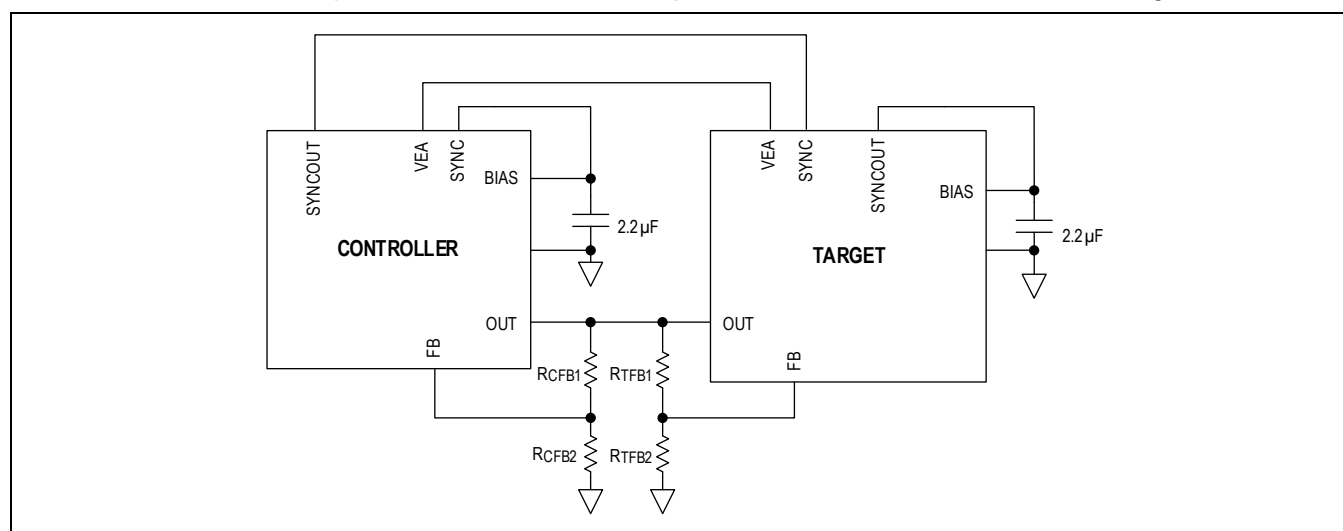

Figure 1. Typical Application Circuit for Dual-Phase Configuration with External Resistor-Divider
To set the output voltage to a value other than the available fixed  $V_{OUT}$  options, connect a resistor-divider between OUT, FB, and GND as shown in Figure 1. Use an identical but separate resistor-divider for controller and target.
3. Place the bootstrap capacitor CBST close to the IC. Use short and wide traces from BST and LX, and minimize this routing parasitic impedance. High parasitic impedance from BST to LX impacts the switching speed, further increases switching losses, and high dV/dt noise. See Figure 1 for BST to LX routing.